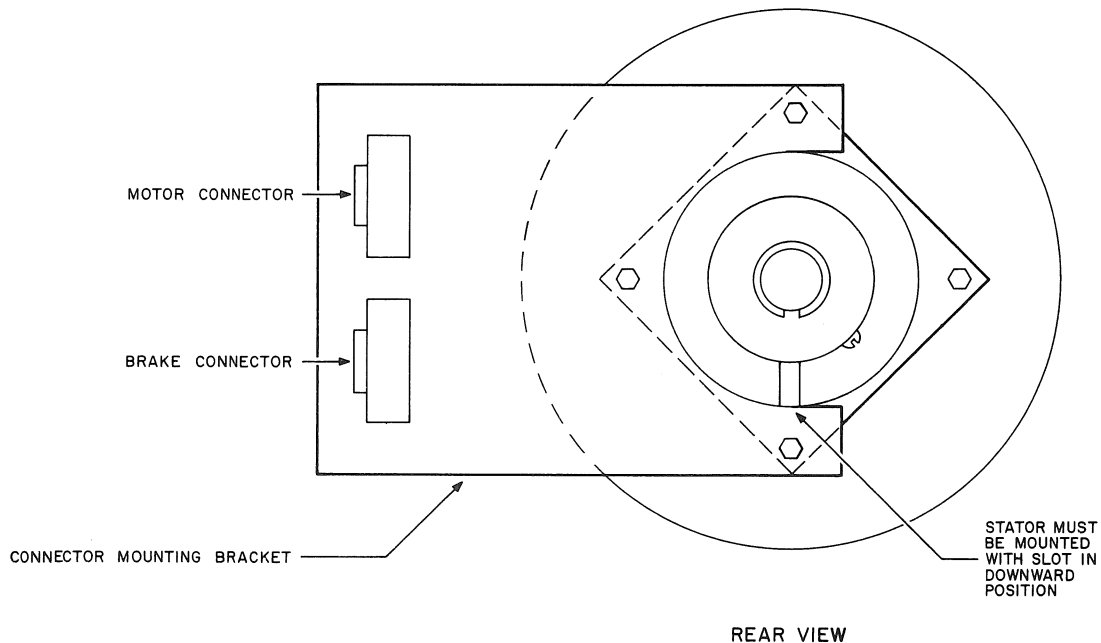

Figure 5-4 Stator Mounting
- a. The brake surface of the stator (Figure 5-4). (Stator is still on motor.)